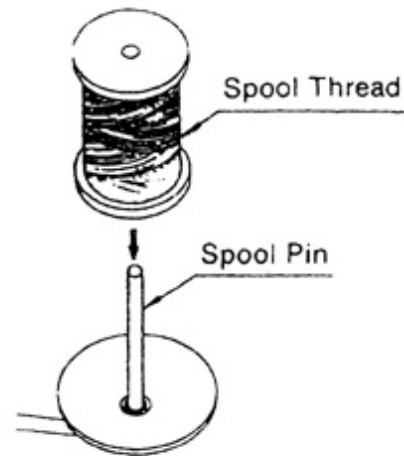

Fig. 10
B. When using spool thread, remove plastic cup before placing spool on thread stand (Fig. 10).